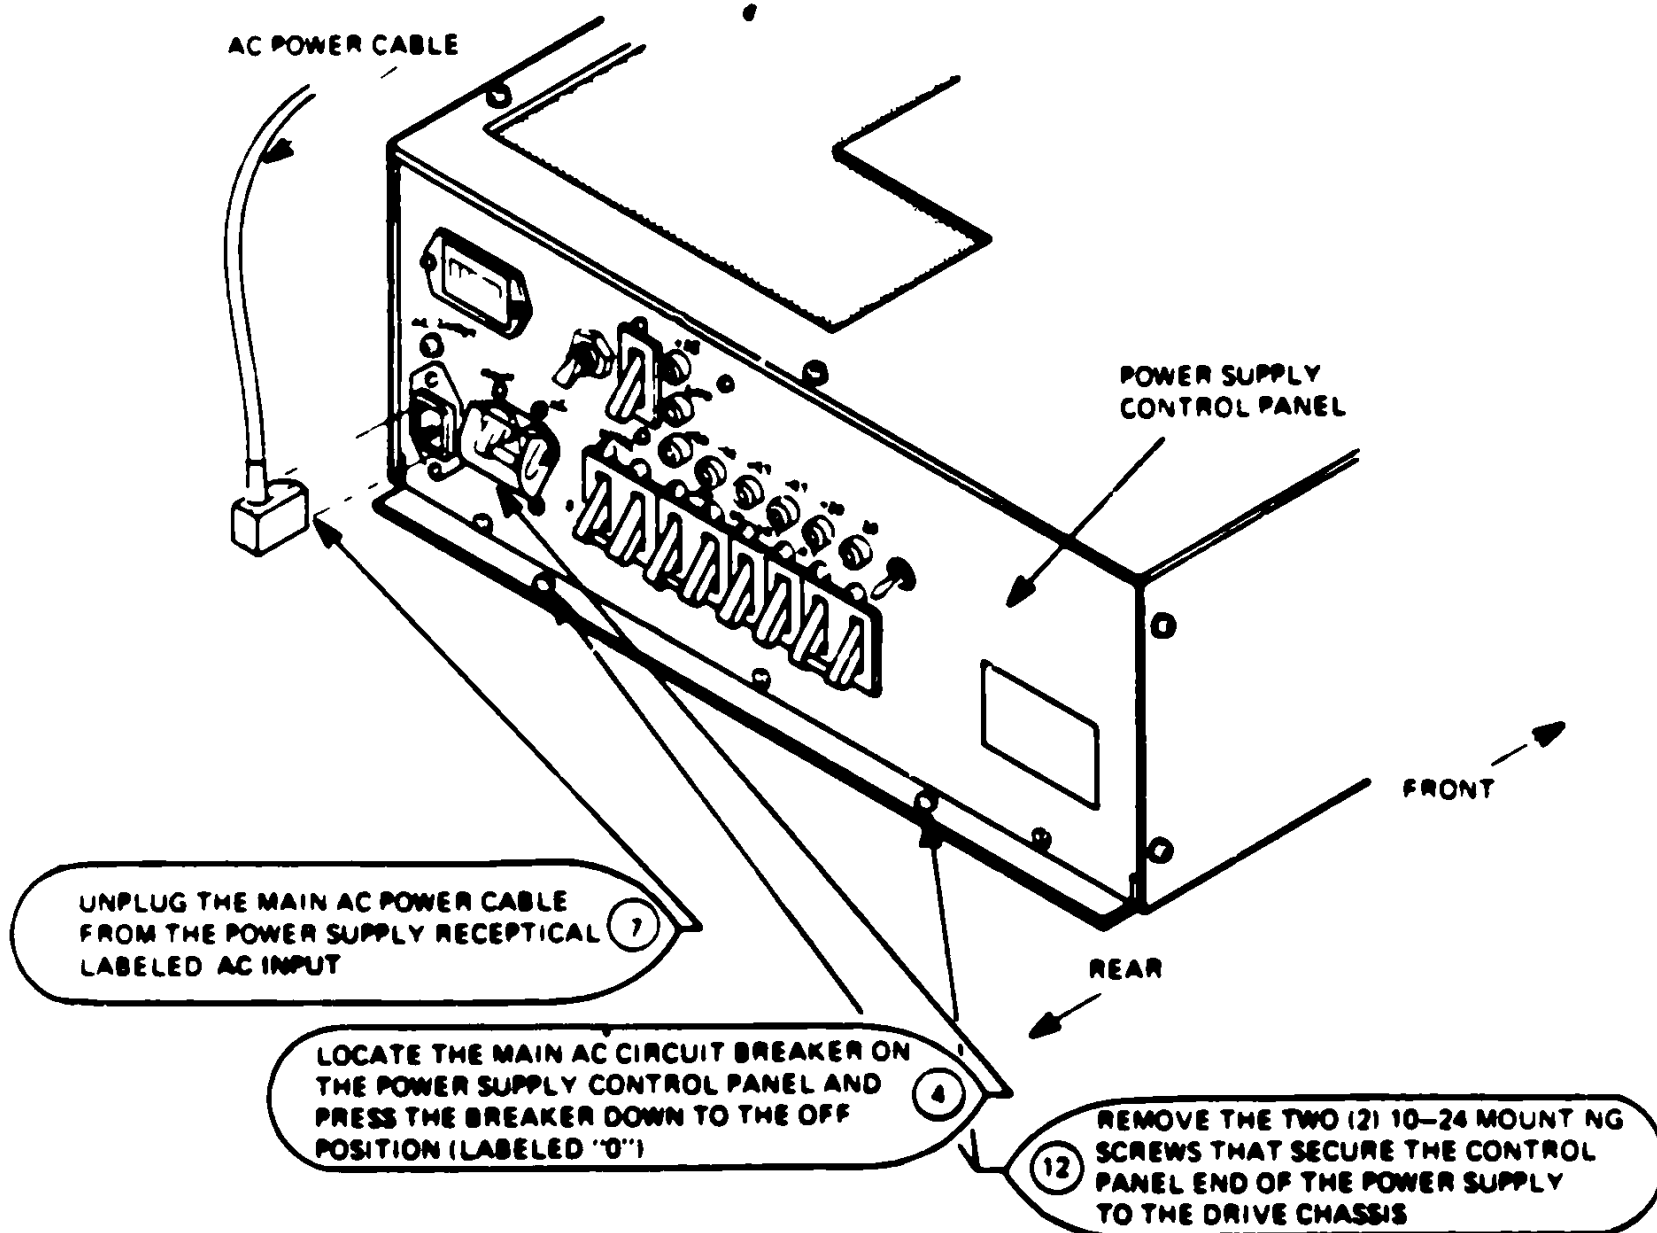

FIGURE 5 VDE RM05 POWER SUPPLY CONTROL PANEL
4. Locate the "MAIN AC" circuit breaker on the power supply control panel and press the circuit breaker down to the "OFF" position (labeled "0"). (See Figure 5)
7. Unplug the main AC power cable from the power supply receptacle labeled as AC INPUT. (See Figure 5)
12. Remove the two (2) 10-24 mounting screws that secure the control panel end of the power supply to the drive chassis. (See Figure 5)